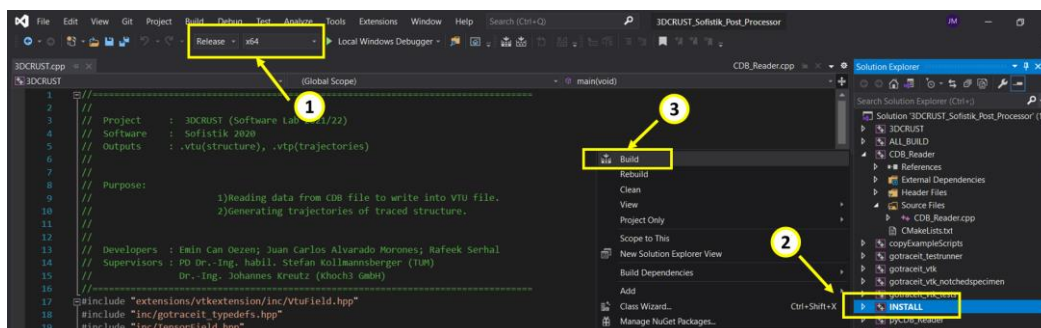

Figure 5 INSTALL Build
After creating the build, open the project make sure to set the configuration to release mode (1), select the **INSTALL** project and select Build as shown in Figure 5 below.